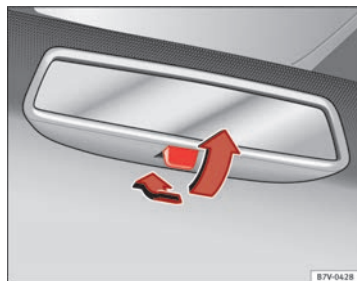

Fig. 71 Manual anti-dazzle function for rear vision mirror
- Pull the lever to the back to select the anti-dazzle function ⇒ fig. 71.